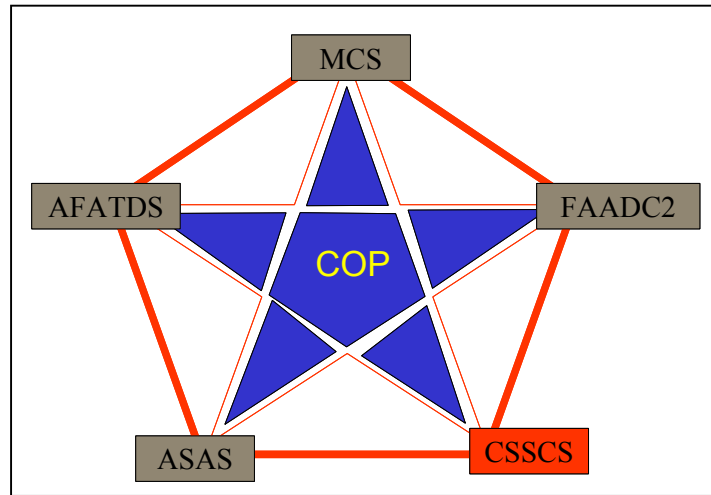

Figure A-2. ATCCS
4. The ATCCS (Figure A-2) integrates the five battlefield functional area (BFA) disciplines: maneuver, fire support (FS), air defense (AD), maneuver support (MS), and intelligence. Each of these functional areas is supported by a control system designed to provide leaders and planners with information to effectively plan, coordinate, control and direct the battle. These battlefield functional area control systems (BFACS) are oriented toward combat operations and provide the commanders and staffs at corps and below with situational information and decision support in executing operational/tactical battle.